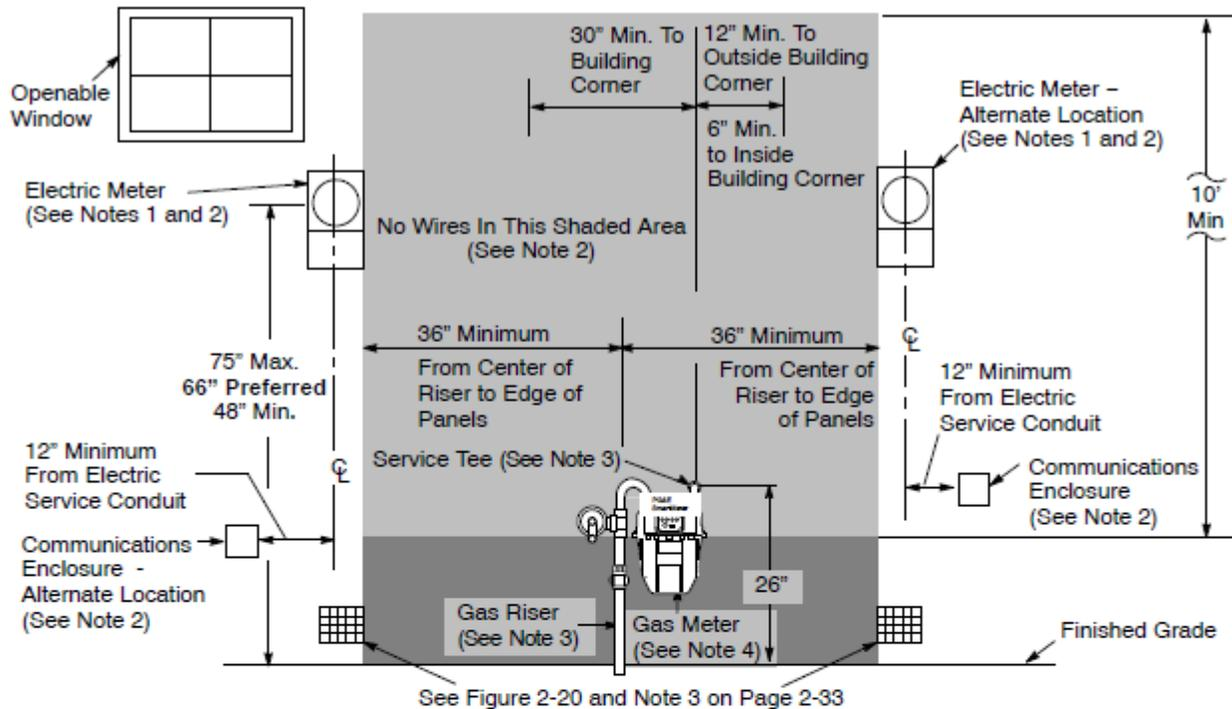

Figure 2-19
Notes in reference to Figure 2-19.
4. The minimum dimensions and clearances in Figure 2-19 are good for gas meters up to the 1,000 class. See Figure 2-14 and Figure 2-15 on Pages 2-27 and 2-28 for illustrations of clear and level working space in front of the gas meter.